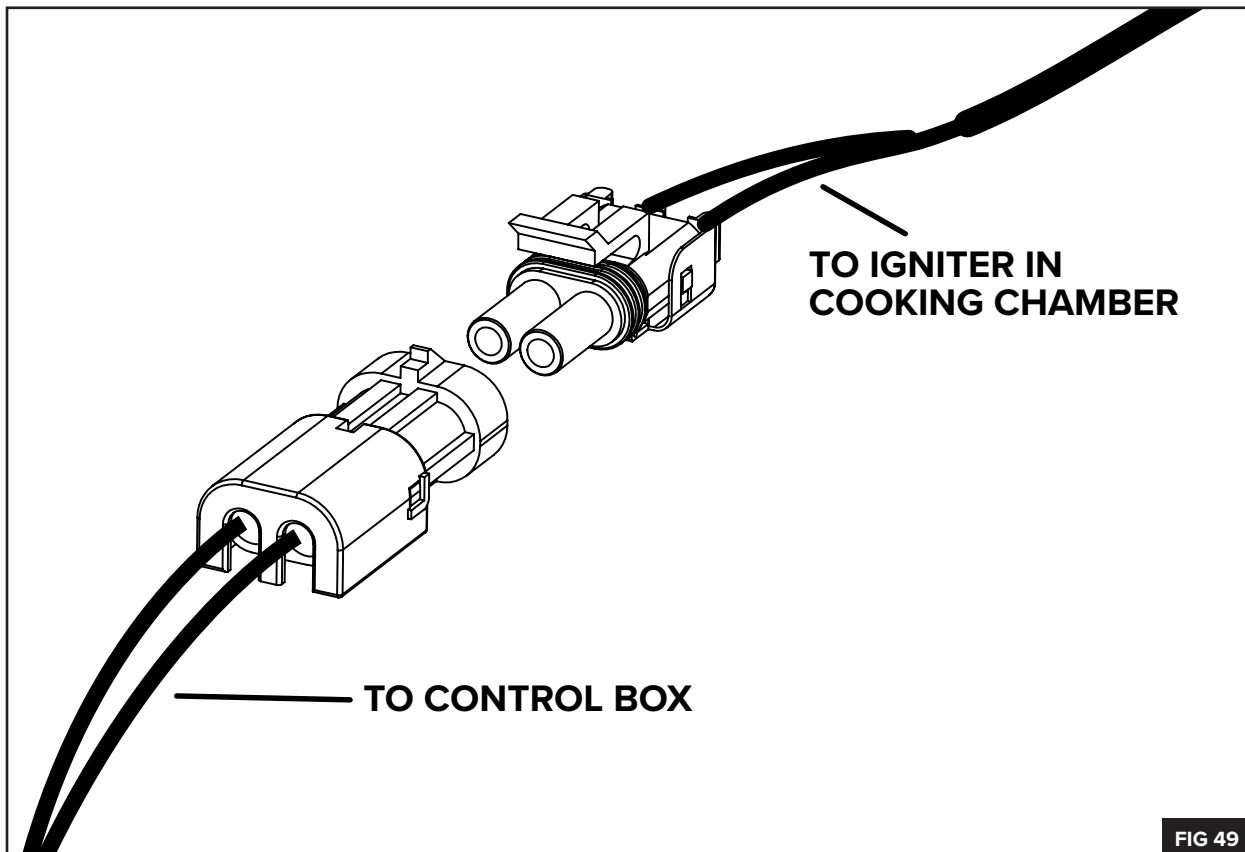

FIG 49
3. Unplug the igniter's weather tight connection and then push the wires back into the hopper cavity (**FIG 49**).